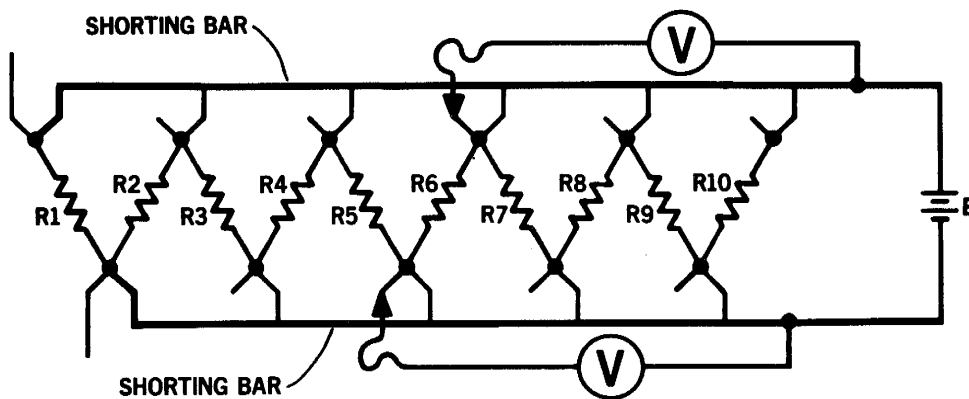

Figure 4-20. Measuring r/R
The value of r/R can be found by measuring the voltage drops from a point on the shorting bars to the junction of adjacent resistors, shown in Figure 4-20. This is done as follows:
1. Connect the shorting bars and a DC Generator to the bank of resistors for parallel use, as shown in Figure 4-20.
2. Connect one lead of a voltmeter to one of the terminals on one of the shorting bars, as shown in Figure 4-20.